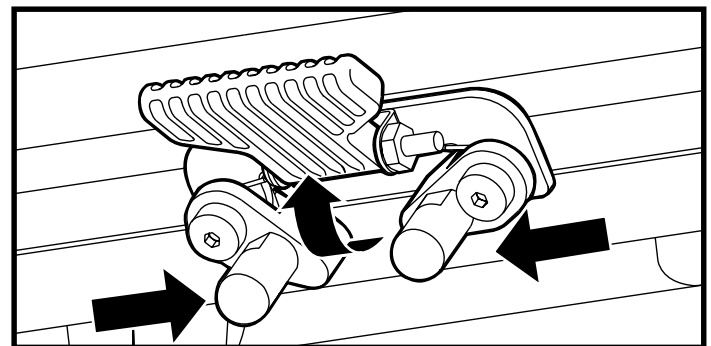

Figure 14. Seat Latch Safety
4. Flip up the seat latch safety. See figure 14.